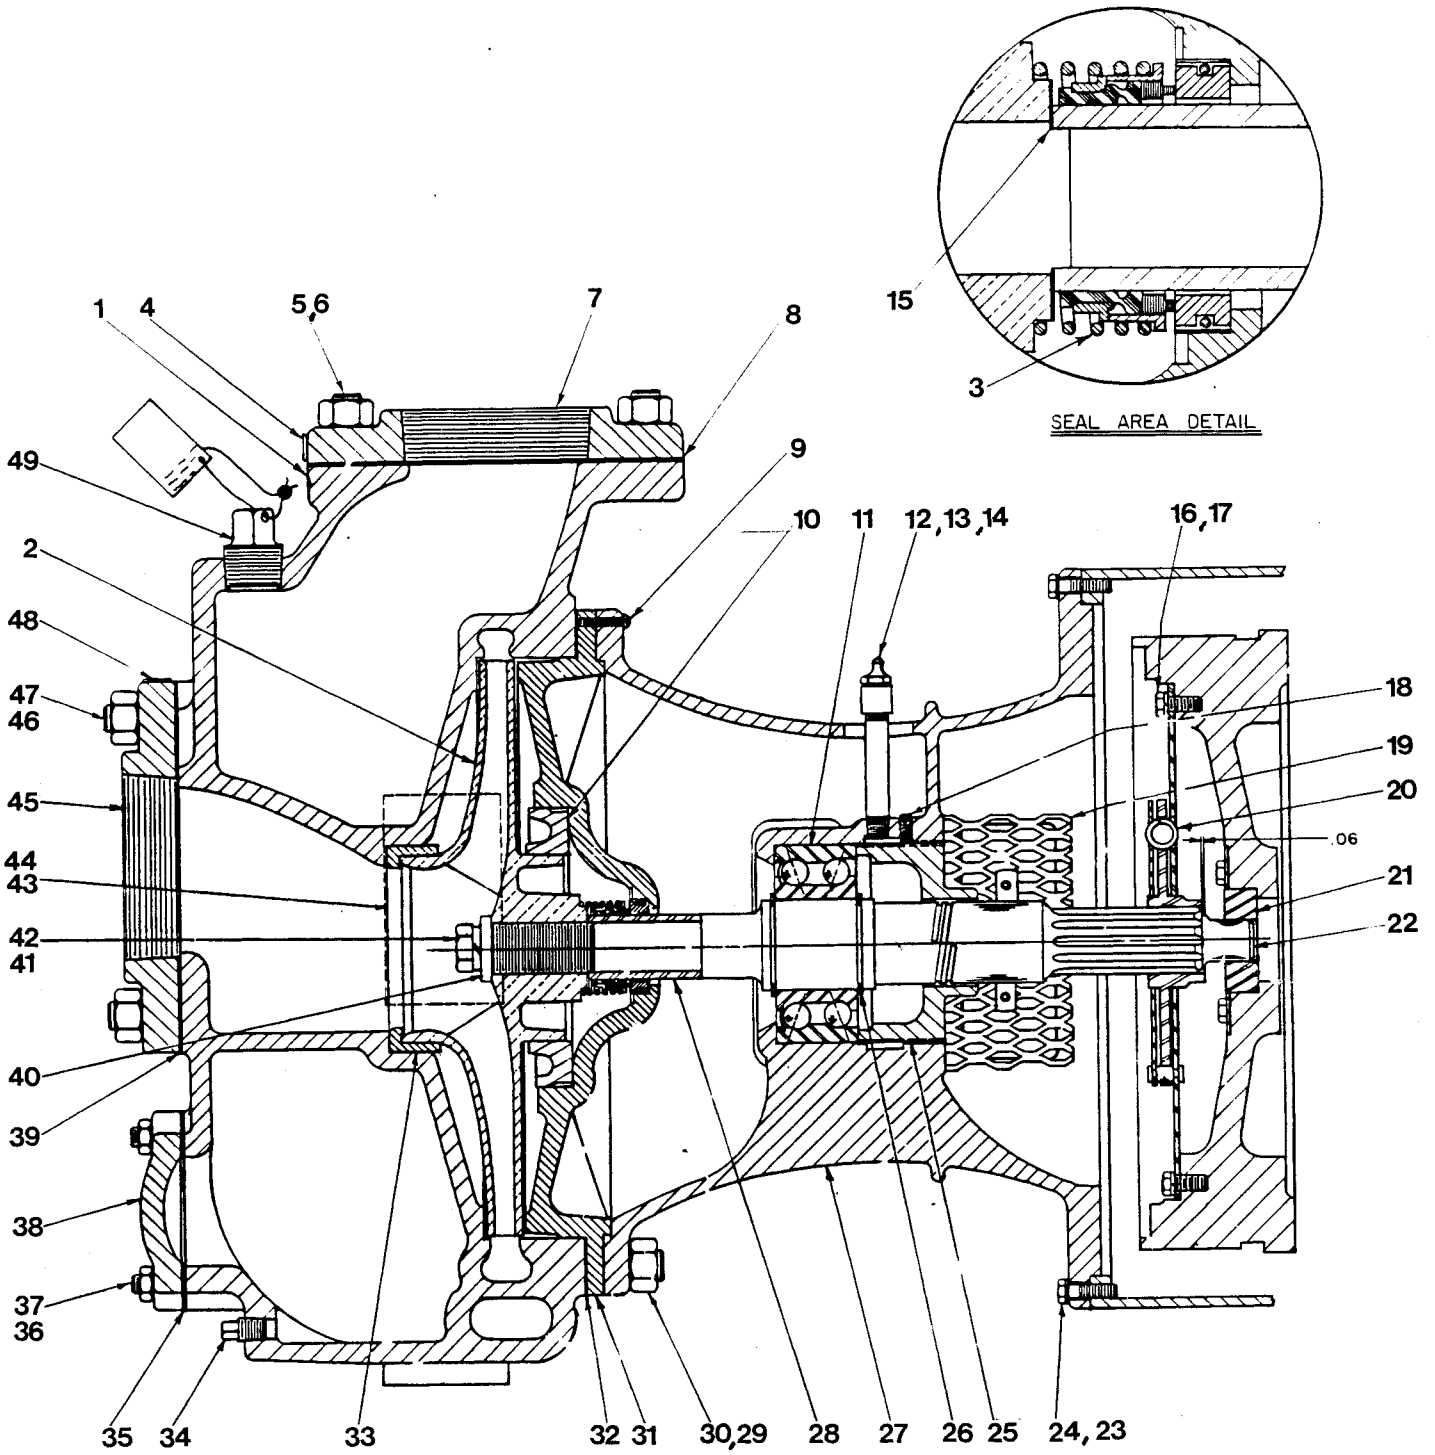

Figure 2. Pump End Assy 04B3-F4L
**(Figure 2)**
**Impeller Removal****(Figure 2)**
**Seal Removal And Disassembly****(Figure 2)**
**Separating Intermediate From Engine****(Figure 2)**
#### (Figure 2)
(Figure 2)